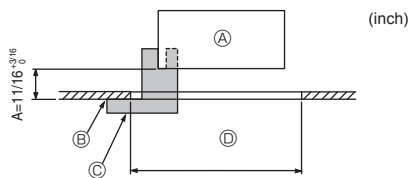
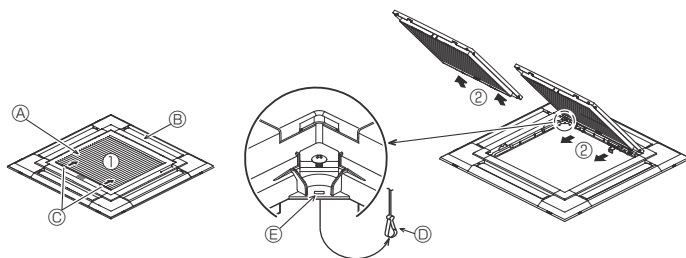
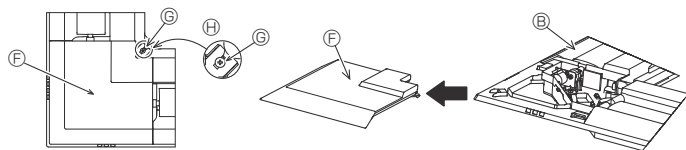

Fig. 6-2
Fig. 6-3
Fig. 6-4
①	Grille	1	950 × 950 (mm), 37-13/32 × 37-13/32 (inch)
②	Gauge	1	Divided into 4 parts
③	Screw (4 × 16)	1	For PLFY-EP-NEMU-E(1)
④	3D i-see Sensor corner panel	1	For PLFY-EP-NEMU-E(1)
6.2. Preparing to attach the grille (Fig. 6-2)
- With the gauge ② supplied with this kit, adjust and check the positioning of the unit relative to the ceiling. If the unit is not properly positioned relative to the ceiling, it may allow air leaks or cause condensation to collect.
- ① Main unit
- ② Ceiling
- ③ Gauge ② (inserted into the unit)
- ④ Ceiling opening dimensions
6.2.1. Removing the intake grille (Fig. 6-3)
- Slide the levers in the direction indicated by the arrow ① to open the intake grille.
- With the intake grille in the "open" position, remove the hinge of the intake grille from the grille as indicated by the arrow ②.
6.2.2. Removing the corner panel (Fig. 6-4)
- Loosen the screw from the corner of the corner panel. Slide the corner panel as indicated by the arrow ① to remove the corner panel.
[Fig. 6-3] [Fig. 6-4]